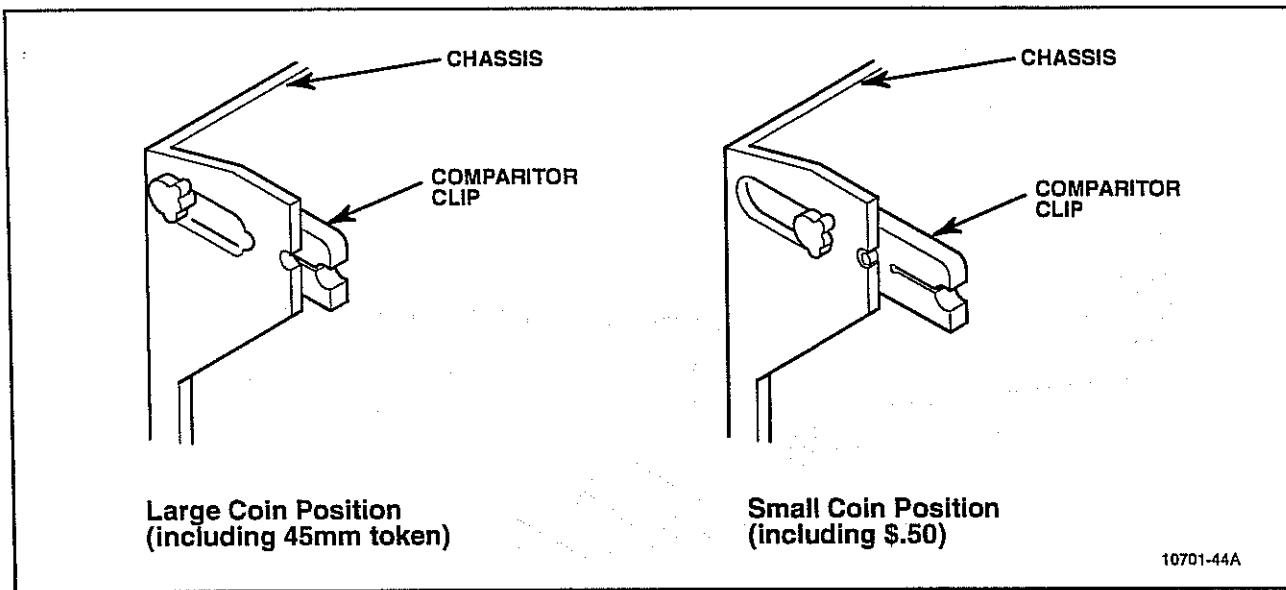

Figure 5-13. Comparator Clip Positions.
The chassis mounting plate is mounted to the coin guide on the coin denomination. See Figures 5-13 and 5-14 for coin channel position and comparator clip positions.
5. Adjust the coin comparator clips located on the sides of the coin chassis. Push the end of the clip slightly inward and rotate the clip 1/4 turn (90 degrees) to unlock. Move each clip forward or backward for position and rotate each clip again 1/4 turn (90 degrees) to lock into place. (See Figure 5-13, Comparator Clip Positions.)